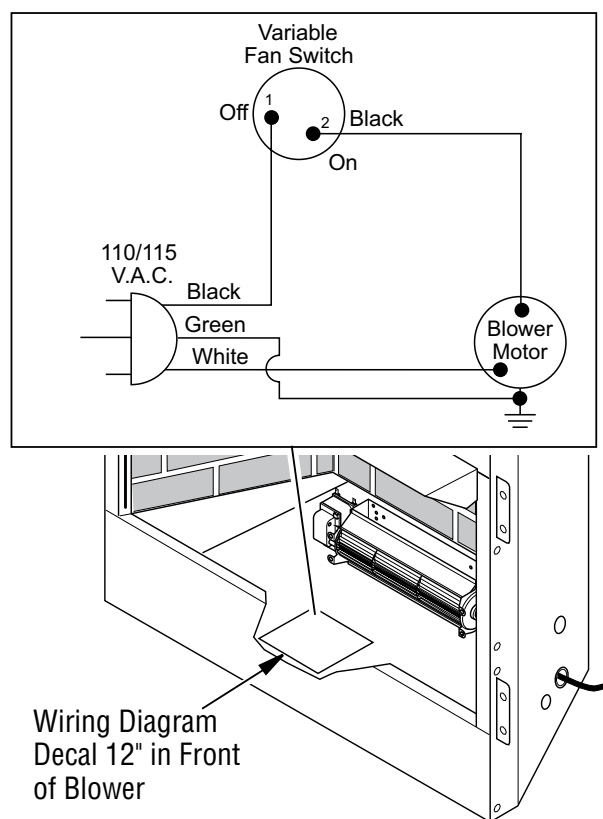

Figure 16 - Location of Wiring Diagram Decal (Model May Vary From Illustration)
8. Peel off backing paper and stick supplied wiring diagram decal on firebox bottom approximately 12" in front of blower (see **Figure 16**).